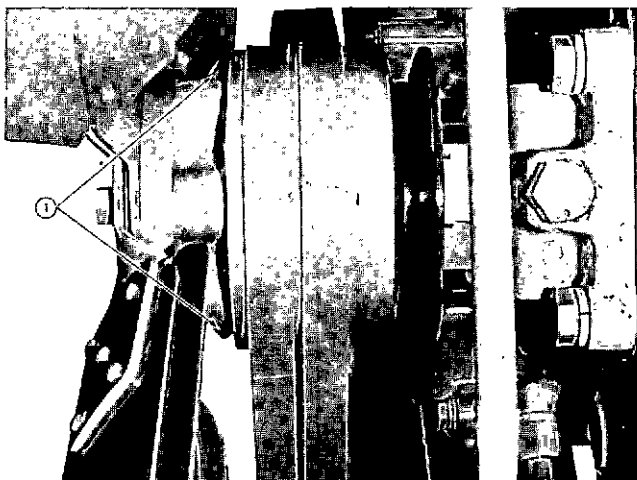

Fig. 2-41 (N21935) Fan hub lubrication point, C Engine
1. Remove pipe plugs, install grease fitting (1, Fig. 2-41) in fan hub. Give one "shot" (approx. 1 tablespoon) each second "C" Check.